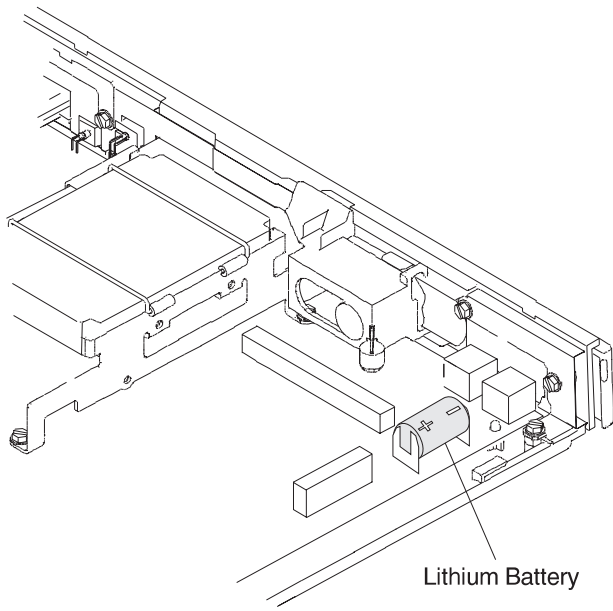

Figure 3-53. Removing the Lithium Battery
- 2 It is important that the new battery be installed with the correct polarity. Notice the polarity markings on the battery before removing the old one. See Figure 3-53 on page 3-54.